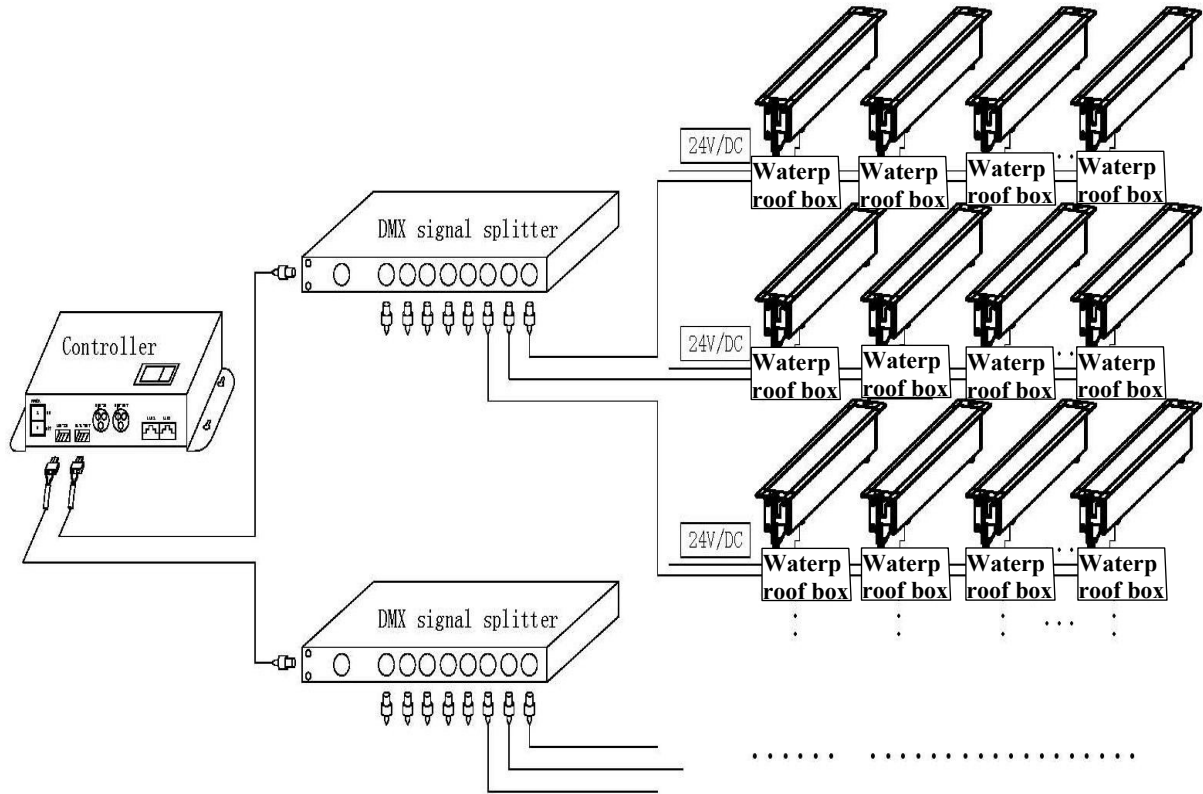

Figure 6
1. Constant voltage 24V/DC lighting fixture DMX512 dimming fixture wiring method (Figure 6).